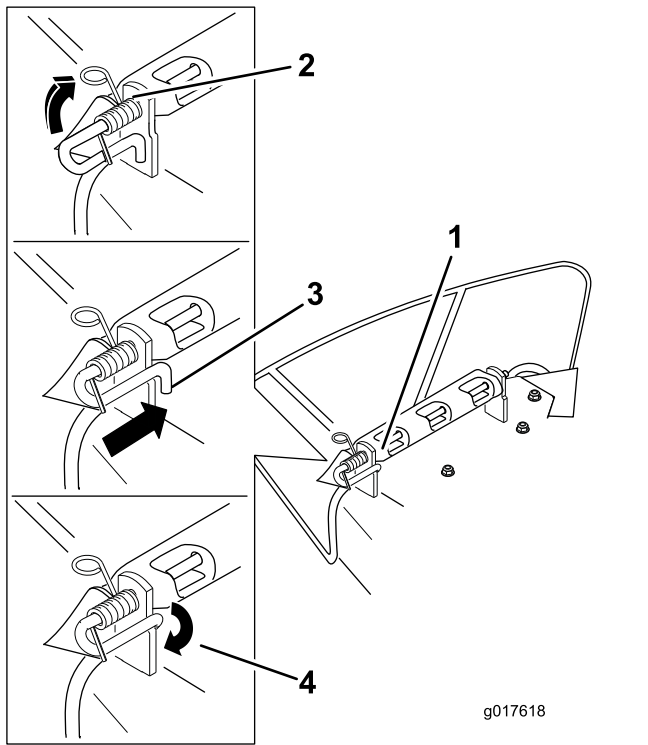

Figure 66
3. Position the new discharge deflector with the bracket ends between the welded brackets on the deck as shown in Figure 66.
- Position the spring on the rod as shown in Figure 66 so that the shorter spring end comes from under the rod before the bend and going over the rod as it returns from the bend.
- Lift the loop end of the spring and place it into the notch on the deflector bracket (Figure 66).
- Secure the rod and spring assembly by twisting it so that the short end of the rod is behind the front bracket welded to the deck (Figure 66).